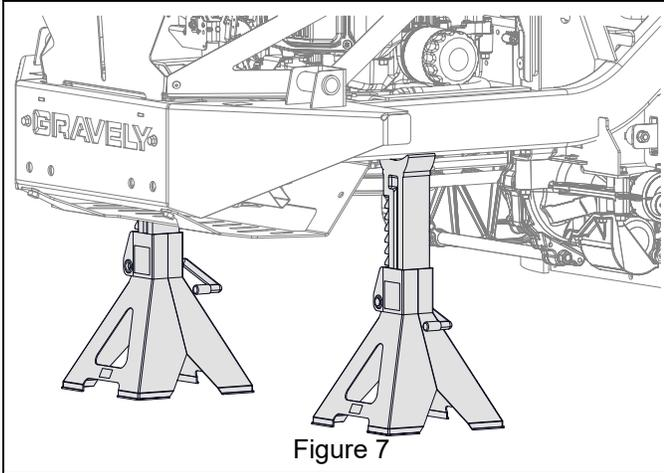

Figure 7
10. Position suitable supports, such as jack stands, under frame and remove wheels. See Figure 7.